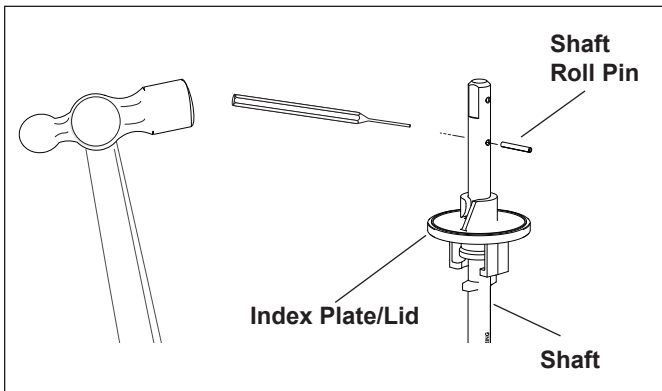

Figure 5. Remove Shaft Roll Pin - Top Half of Slide Valve Shaft Shown
2. Using a punch and ball peen hammer, tap the existing roll pin out of the slide valve shaft (see Figure 5).
3. Remove the new index plate/lid from the packaging and slide onto the slide valve shaft. Refer to Figure 5 for the correct orientation of the index plate/lid.
4. Remove one (1) new roll pin from the packaging. The replacement kit comes with two (2) roll pins, one is to be used to secure the handle.